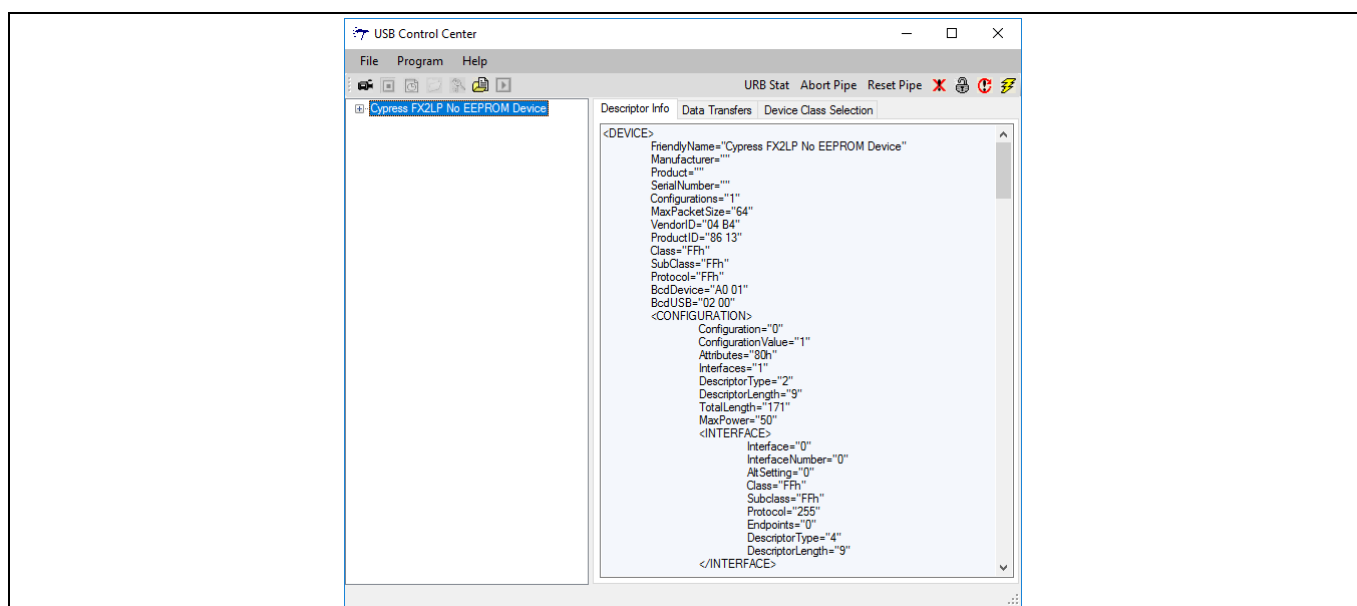

Figure 30 USB Control Center Tool
1. Browse to the FX3 SDK installation directory. Open the USB Control Center application (CyControl.exe) from the location *<Installed directory>\<version>\application\c_sharp\controlcenter\bin\Release*. Choose the Cypress FX2LP device as in Figure 30.